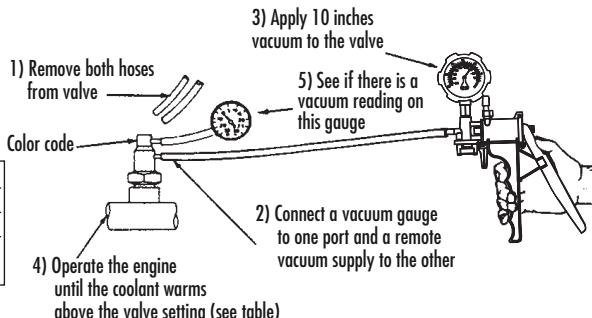

FIGURE 13: TESTING THE TWO-PORT PVS
- 1) Apply 10" Hg of vacuum to the bottom port of the valve with your vacuum pump and measure the results with a second vacuum gauge as shown in the accompanying illustration (FIGURE 13).